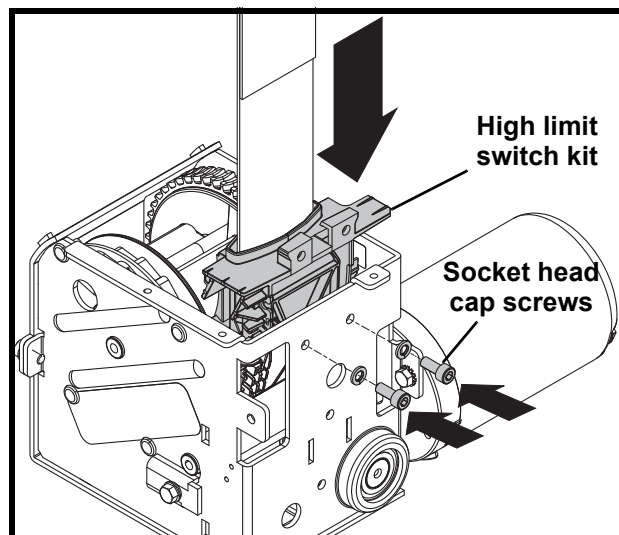

Fig. 20
- 11) Lower the high limit switch kit into place and reinstall the socket head screws (see Fig. 20).